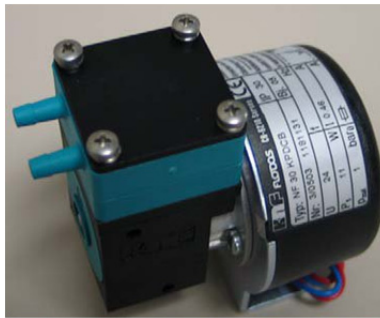
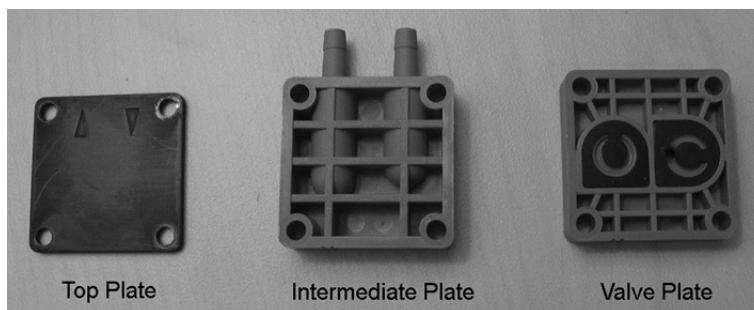

Figure 77: ICR Pump and Diaphragm Housing
Figure 78: ICR Pump Plates
1. Locate the pump diaphragm housing (Figure 77).
2. Using a Phillips-head (cross-head) screwdriver, loosen the four screws on the pump (Figure 77) and lift the black head plate from the intermediate plate (Figure 78).
3. Remove the intermediate plate and remove the valve plate (Figure 78). If necessary, carefully clean the head and intermediate plates of any residue. Be careful not to scratch the parts.